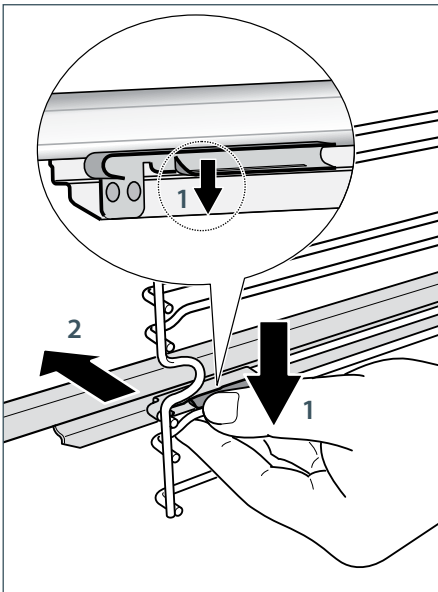

Fig.79 Removing the sliding shelf supports
- 3 Find the safety locks. These are the tabs that clip over the wire of the side rack (arrow 1 in Fig. 79).
- 4 Pull the safety locks away from the wire to release the wire (arrow 2 in Fig. 79).